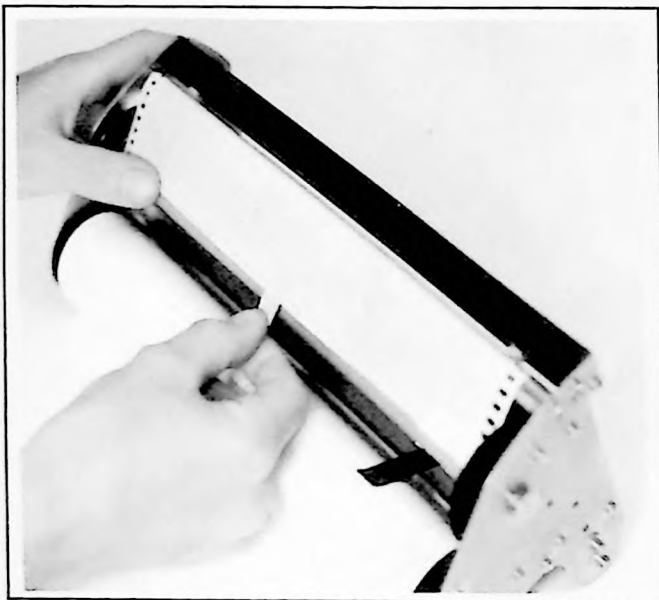
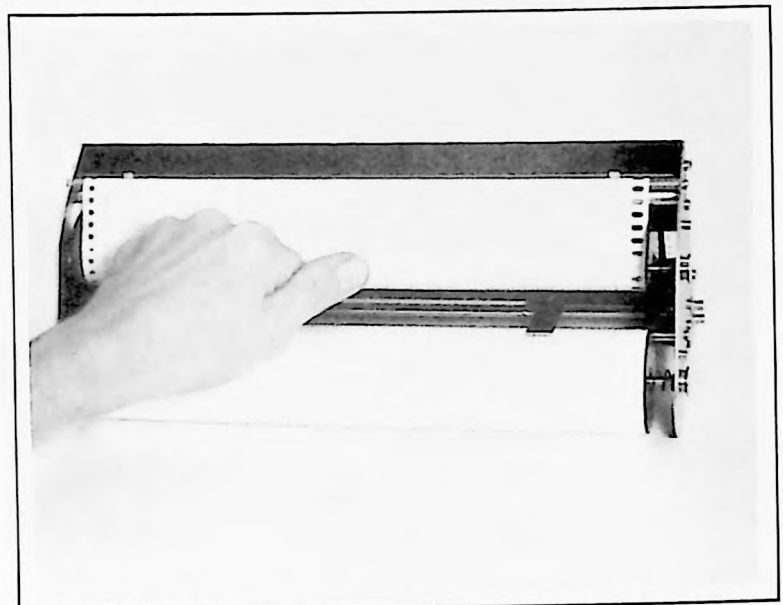

Figure 3-12. Taping Paper to Take-Up Spool
Figure 3-13. Creasing Paper on Take-Up
h. Pull paper over second paper guide roll and tape paper to center of take-up spool (Figure 3-12). Holding magazine and using thumbwheel, advance paper one complete turn on take-up roll, then run finger down length of roll to flatten and crease (Figure 3-13). This ensures a tight take-up roll.